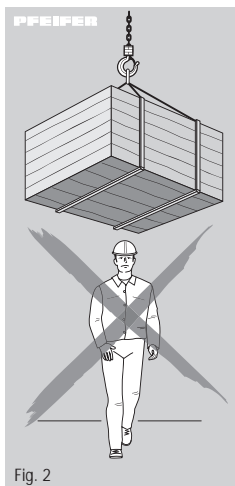

Fig. 2
- Entering the area under a suspended load is not permitted (Fig. 2).